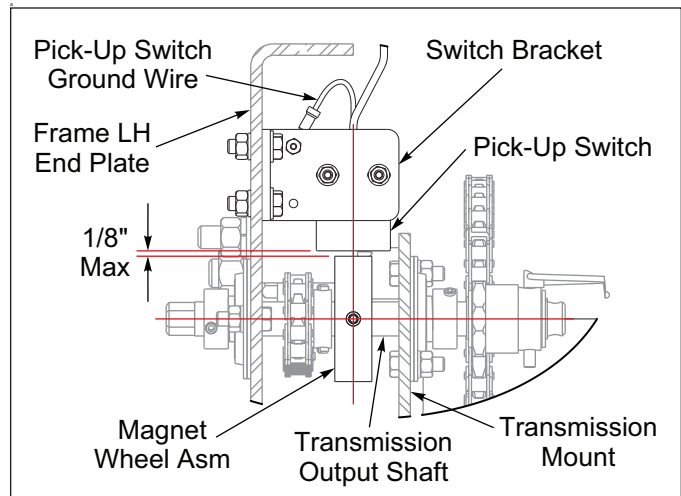

Figure 2-13: Pick-Up Switch Adjustment
10. Adjust the Pick-Up Switch on the Switch Bracket so the centerline of Magnet Wheel Assembly and Pick-Up Switch are horizontally and vertically aligned with maximum 1/8" between the Magnet Wheel Assembly and the Pick-Up Switch. Tighten #8-32 Screws. **See Figure 2-13.**